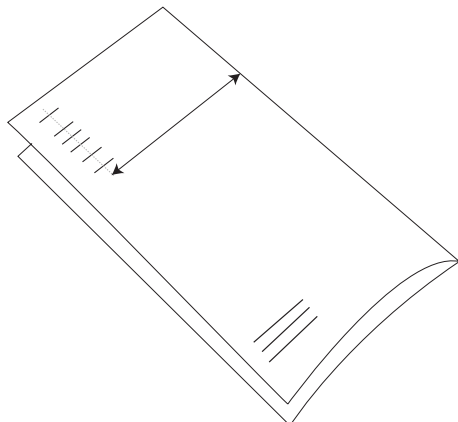

Fig. 3
- fold the document double on the middle line as shown in fig. 3.